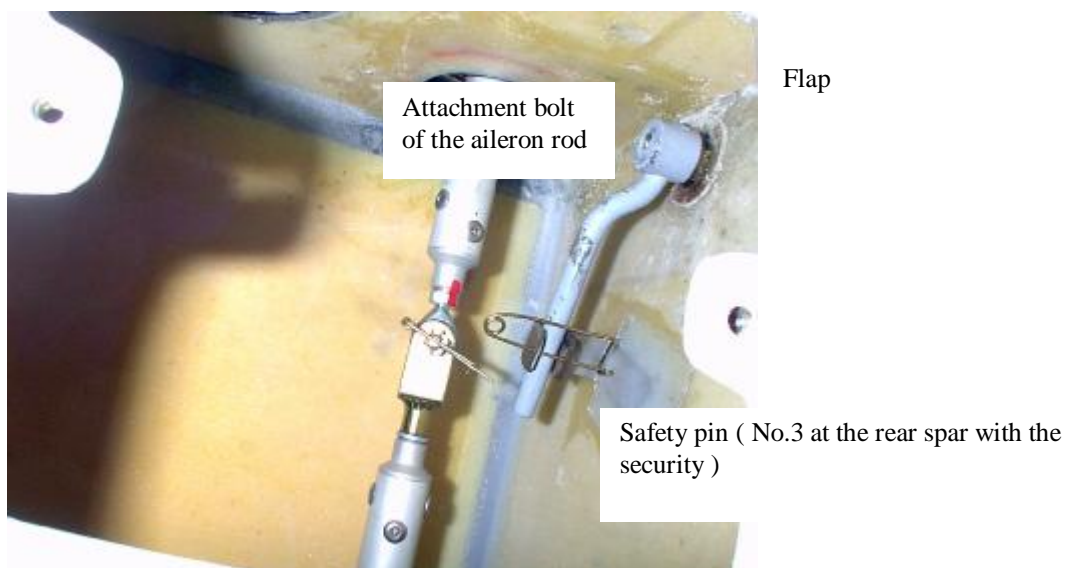

Fig. 4. Connecting bolt + safety pin of aileron connection.
4. Insert rear spar into the fitting to locate the rear spar to the centre section. Secure all 6 pins with safety pins (Fig.4).
7. Connect the aileron control rod with the rod in the wing centre section and secure the nut (Fig.4) with the safety pin. Than tight the fuel houses clamps.